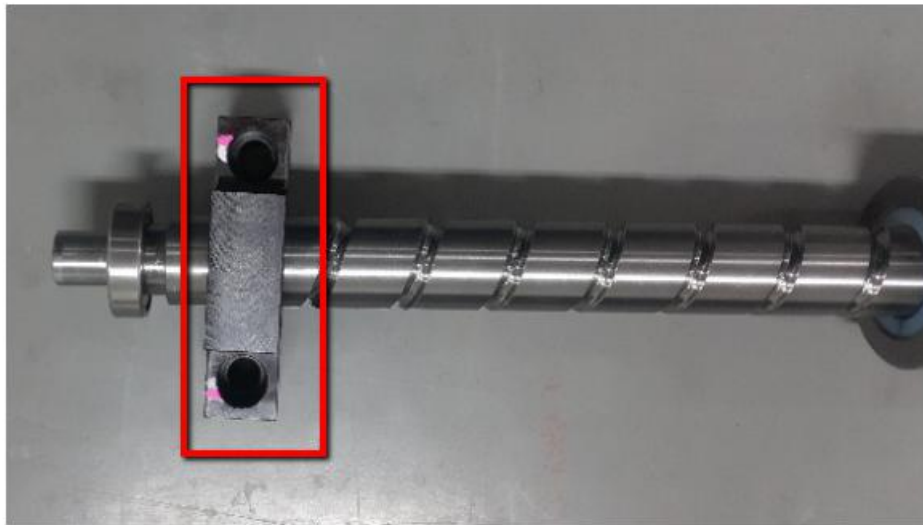

Figure 18 End bearing block removal
18. Gently remove other end of bearing block from ball screw. May refer to below Figure 18.